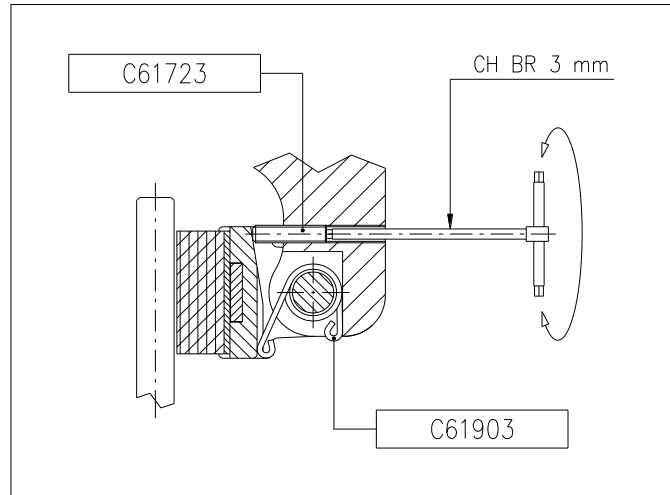

Figure 2
- Adjust the brake shoes using the grub screw C61723 rotating it in the appropriate direction with a n. 3 Allen key; the friction surface of the brake linings must be parallel to the surface of the disc (Figure 2).
6. Reassemble the shoe following the sequence in point 2 in reverse order, positioning the shoe alignment spring C61903 as indicated in Figure 2.
3. Remove the shoe alignment spring C61903 from its seat and replace it with a new one positioning it as shown in Figure 2.